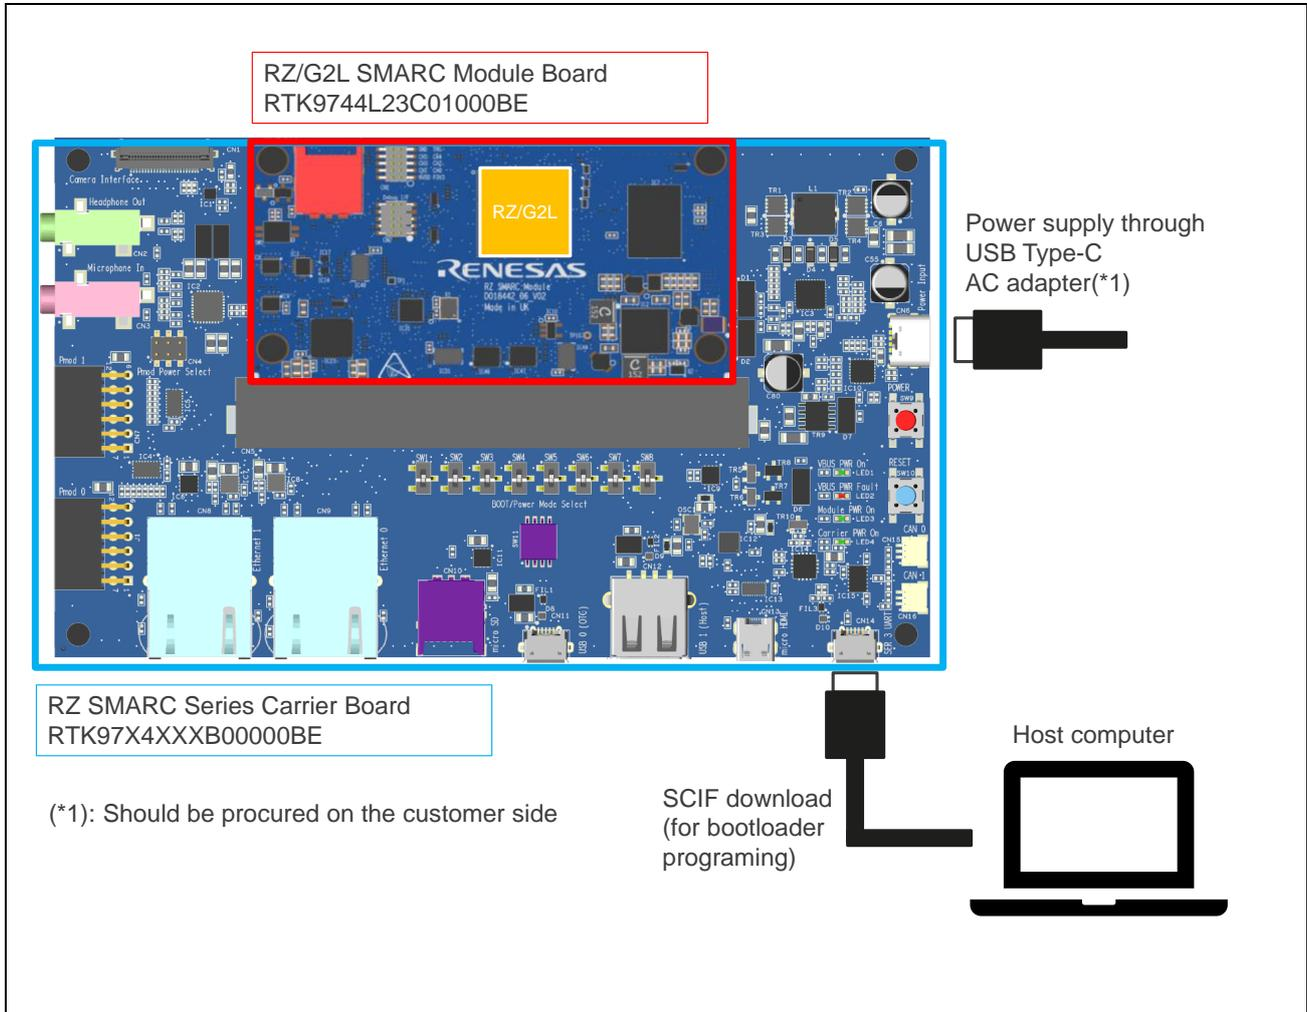

Figure 1.1 Example of System Configuration Using the RTK97X4XXXB00000BE
**Figure 1.1** shows an example of system configuration using the RTK97X4XXXB00000BE. Here, it shows an example that the RTK9744L23C01000BE is used as the Module Board(\*1).